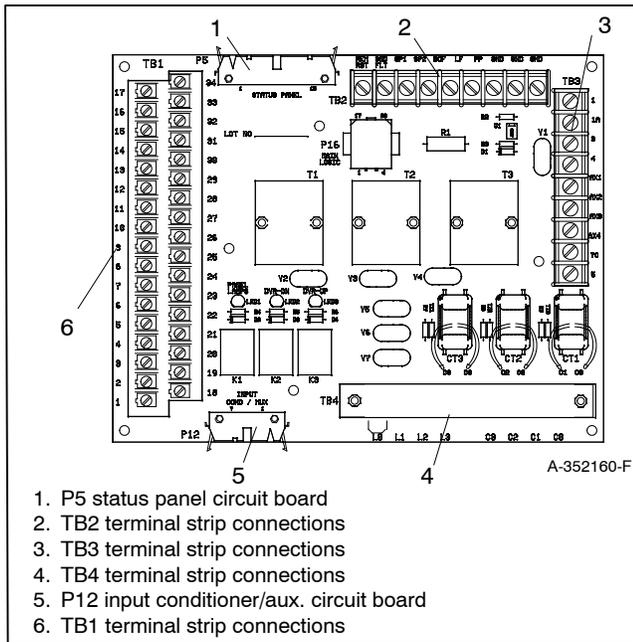

Figure 6 Interconnection Circuit Board A-352160
4.2 Interconnection circuit board A-352160. See Figure 6.
6.2 Interconnection circuit board A-352160. See Figure 6.